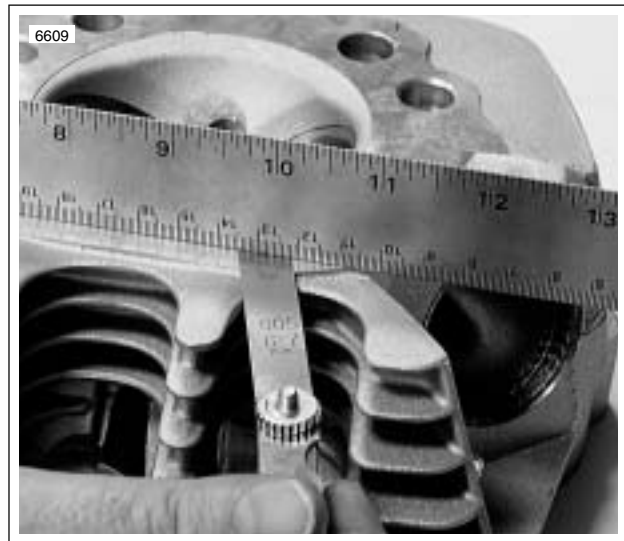

Figure 3-50. Checking Gasket Surface
4. See Figure 3-50. Check head gasket surface on head for flatness. Machine or replace any head which exceeds SERVICE WEAR LIMIT of 0.006 in. (0.152 mm).